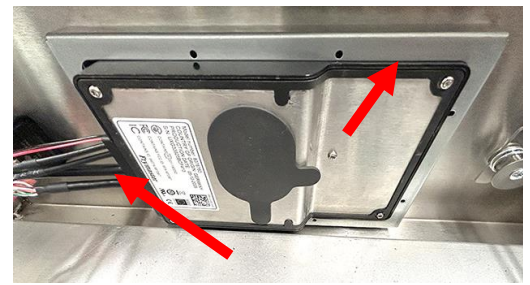

Figure 22
22. Rotate the bracket and controller so that they sandwich the cabinet frame between them as shown, with the wire harnesses positioned as shown (see Figure 22).